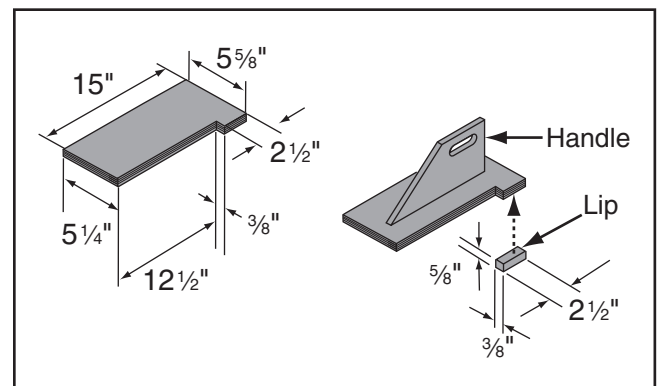

Figure 85. Push block dimensions and construction.
3. Using the $\frac{3}{4}$ " material you used in the previous steps, cut out pieces for the push block per the dimensions shown in **Figure 85**; for the handle, cut a piece 10" long by 5"–9" high and shape it as desired to fit your hand.